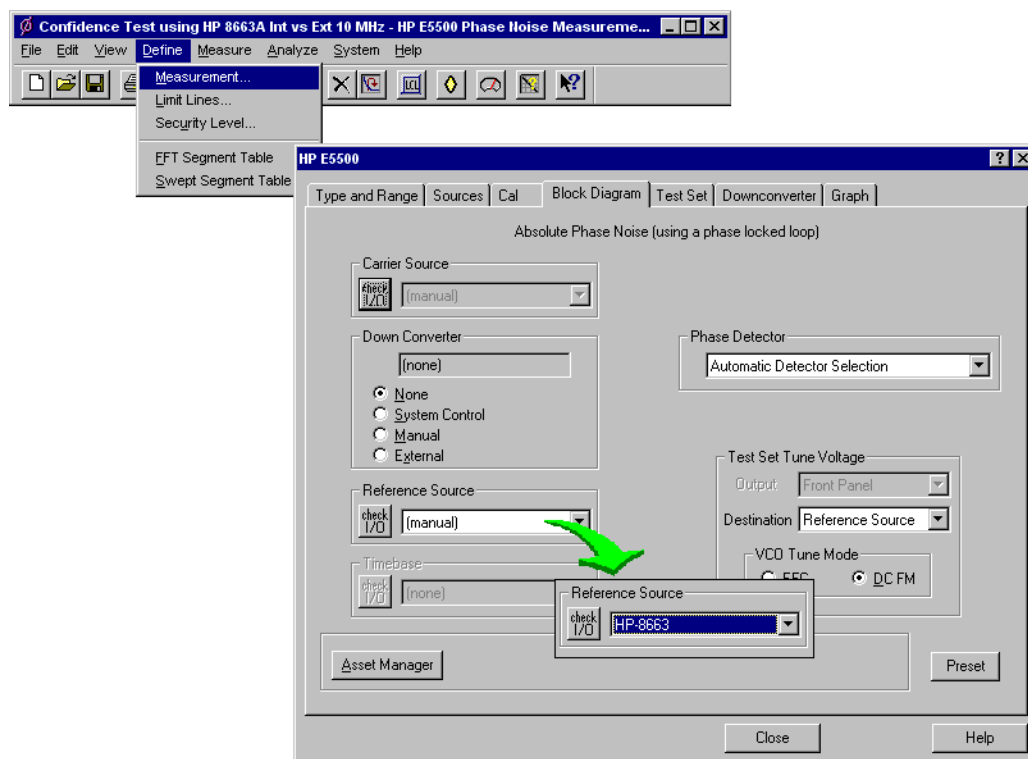

Figure 5-14 Selecting a Reference Source
- 1 Using Figure 5-14 as a guide, navigate to the **Block Diagram** tab.